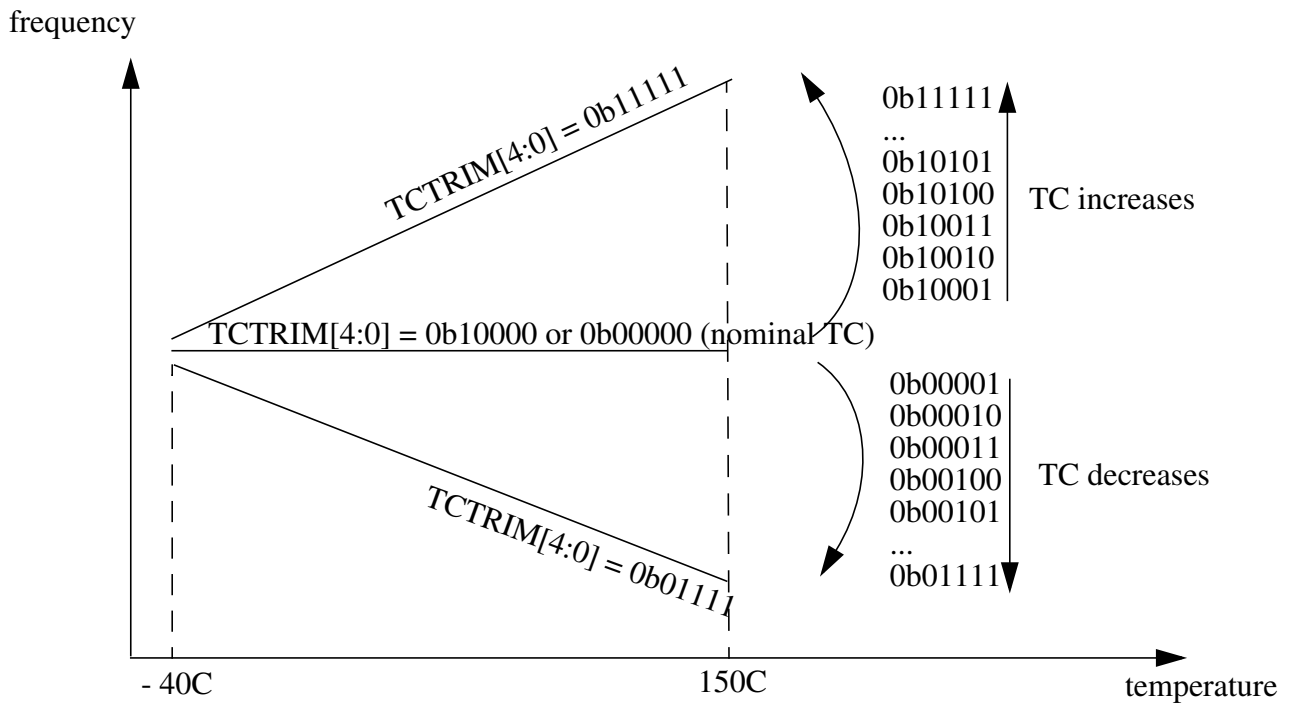

Figure 10-26. Influence of TCTRIM[4:0] on the Temperature Coefficient
15-11 TCTRIM[4:0]	<p>IRC1M temperature coefficient Trim Bits</p> <p>Trim bits for the Temperature Coefficient (TC) of the IRC1M frequency.</p> <p>Figure 10-26 shows the influence of the bits TCTRIM[4:0] on the relationship between frequency and temperature.</p> <p>Figure 10-26 shows an approximate TC variation, relative to the nominal TC of the IRC1M (i.e. for TCTRIM[4:0]=0b00000 or 0b10000).</p>